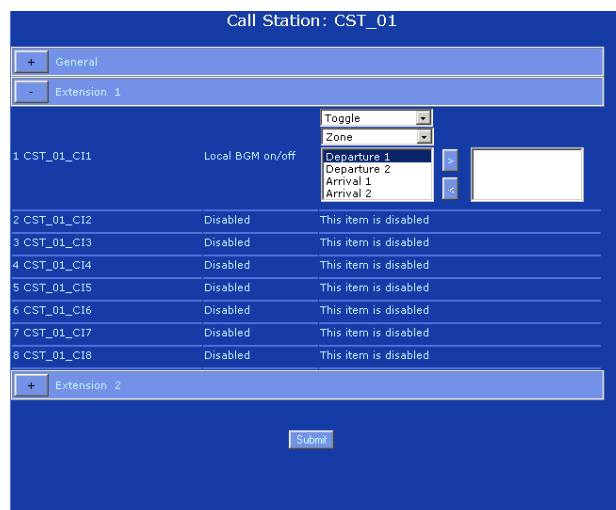

figure 38.49: Local BGM on/off, step 4
- 4 Select the type of action that must be assigned to the key from the upper dropdown list. See figure 38.49 for an example.